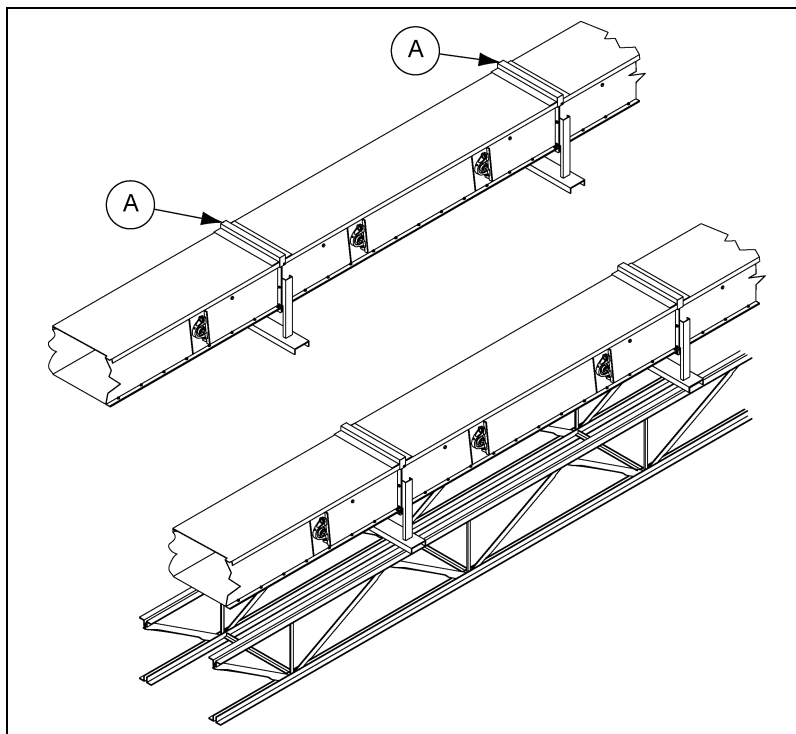

Figure 4A Conveyor Supporting Structures
9. The conveyors are not designed to be self-supporting when erected. Supporting structures are required for horizontal and vertical support. \(See Figure 4A on Page 24.\)
1. Figure 4A illustrates the general type of acceptable support structure.
2. Conveyor must be supported at each section joint (A). Refer to the certified drawing for location and attachment of the short section.